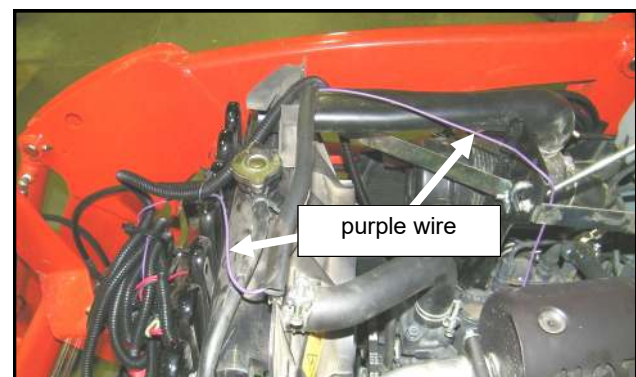

Fig. 9.5 (wire harness - left side of engine bay)
9.5 Route the purple wire to the fuse block securing with wire ties so that it does not touch any sharp edges, hot exhaust components or moving components. See fig. 9.5.